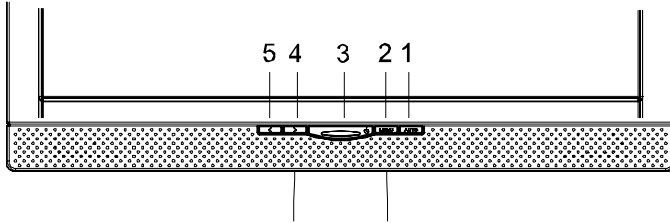

Figure 4. Monitor features
1. First start your PC and then turn on your monitor using the power switch (① in fig. 4).
The status indicator (① in fig. 4) should light up green.
You can adjust the image settings (such as brightness, contrast, image position, phase, etc.) manually or by using the LCD monitor’s automatic image adjustment feature. This will adjust the image parameters to their optimal settings for the current graphics mode. Press AUTO (① in fig. 4) to launch the automatic adjustment. The process will take a short while until completed.
You can adjust the speaker volume of the integrated audio system directly by pressing the ► buttons (④ in fig. 4) while the OSD menu is inactive. Next press the ► button to increase the volume or the ◀ button to decrease it.
You can adjust brightness and contrast directly by pressing the ◀ buttons (④ in fig. 4) while the OSD menu is inactive. Next, press the ◀ or ► buttons (④ and ⑤ in fig. 4) to adjust the brightness or the ◀ or ► buttons (④ and ⑤ in fig. 4) while the OSD contrast.
Press the **MENU** button (② in fig. 4) to display the OSD menu on the screen.
1. There are a total of 5 OSD submenus divided by categories. Select the desired submenu by pressing the ◀ or ▶ button (④ and ⑤ in fig. 4; see section "OSD Menu Functions").
2. Press the button **MENU** (② in fig. 4) to activate the selected function or associated submenu.
3. If you selected submenu, now select the sub-function you want using the ◀ or ▶ buttons (④ and ⑤ in fig. 4).
5. Press the **MENU** button (② in fig. 4) to save the setting. Repeat setups 2-5 to make further adjustments as needed.
6. The OSD menu automatically disappears if no changes are made for more than 20 seconds (default setting). The current settings will be saved. You can close it manually by pressing the **AUTO** button (① in fig. 4).